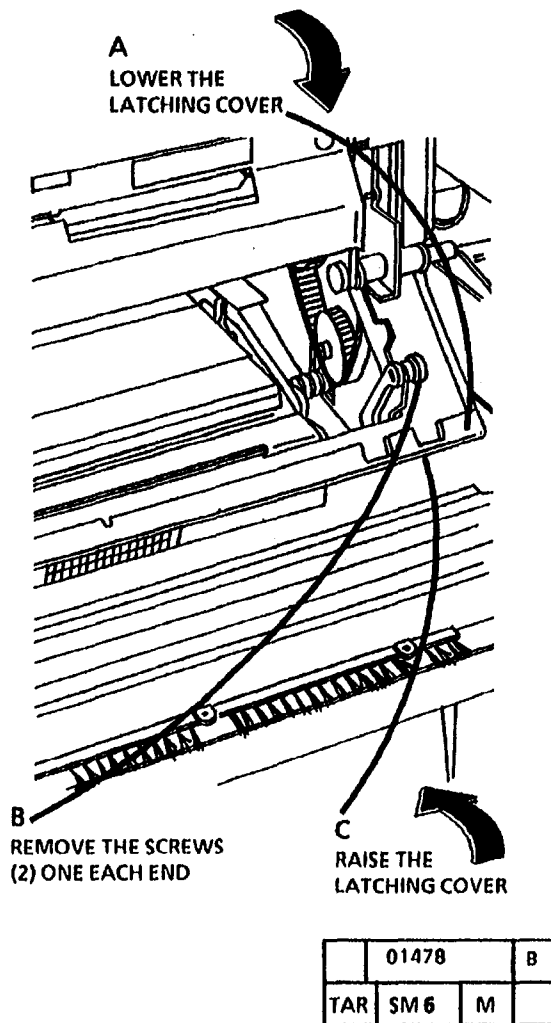

Figure 18. Remove the Latch Bars
19. (Figure 18): Remove the Latch Bars.